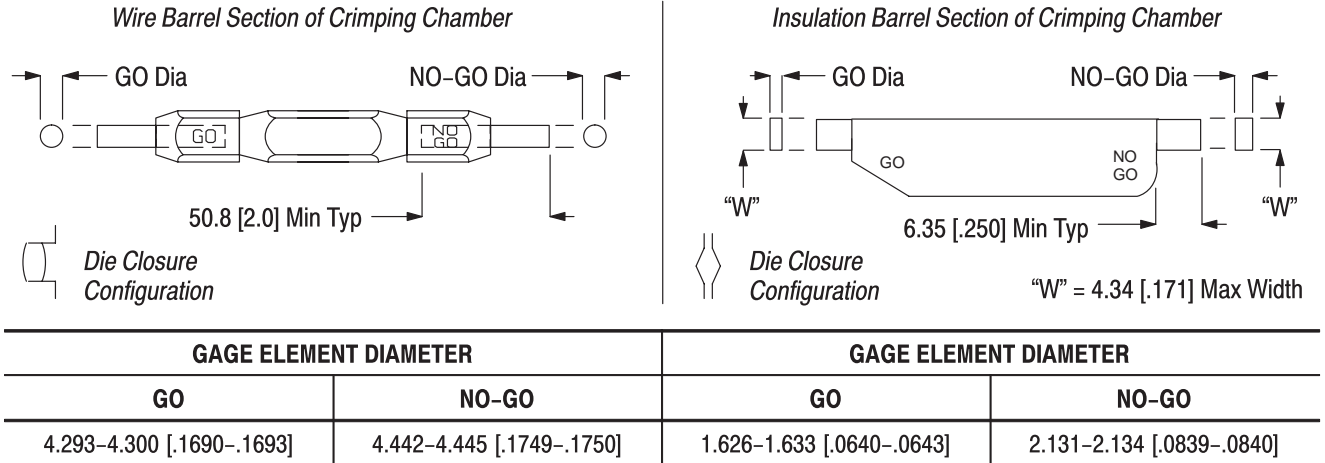

Figure 9
This inspection requires the use of plug gages conforming to the dimensions provided in Figure 9. To gage the crimping chamber, proceed as follows:
- Add gage information to table in Figure 9